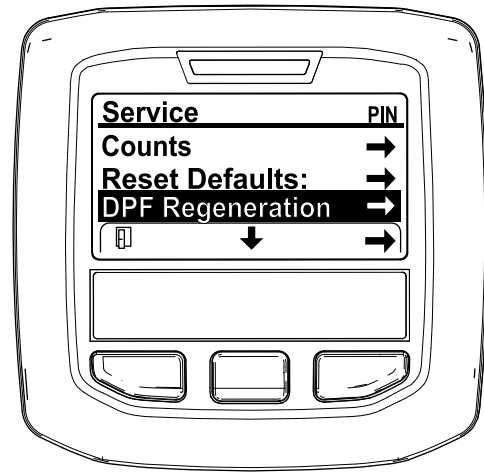

Figure 44
3. In the SERVICE MENU, press the middle button until the DPF REGENERATION options displays, and press the right button to select the DPF REGENERATION option (Figure 44).